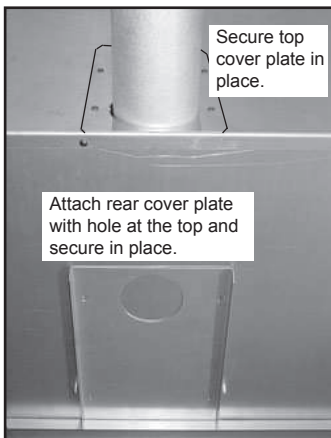

Figure 36.4
9. Re-attach the top cover plate to the top of the fireplace and the rear cover to the back of the outer can. **Figure 36.4 on page 36.**